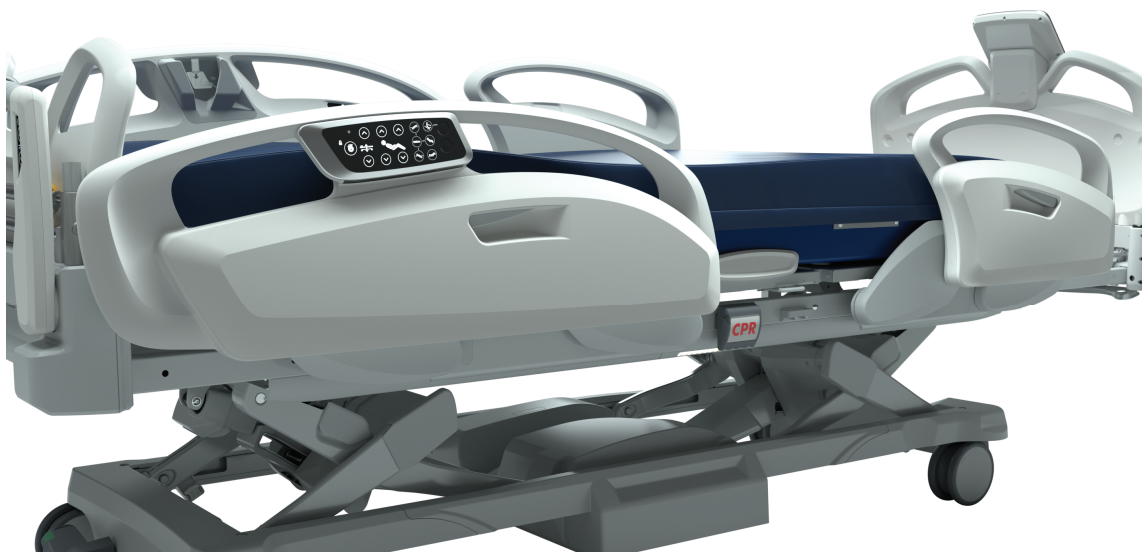

Figure 13 – Siderail intermediate position
- To raise the siderail to the intermediate position, grasp and rotate the siderail up from the lowest position until you hear the siderail click (Figure 13).
- To lower the siderail to the intermediate position, press the siderail release (N) (*Product illustration* (page 13)) and rotate the siderail forward until the siderail stops at the intermediate position (Figure 13).